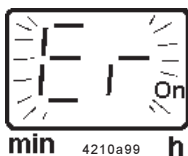

Fig. 22 - Display of a fault indication
- The fault indication "Er" (error) is displayed as a flashing light (fig. 22). At the same time, a potential free contact is available for the external fault indication (option).